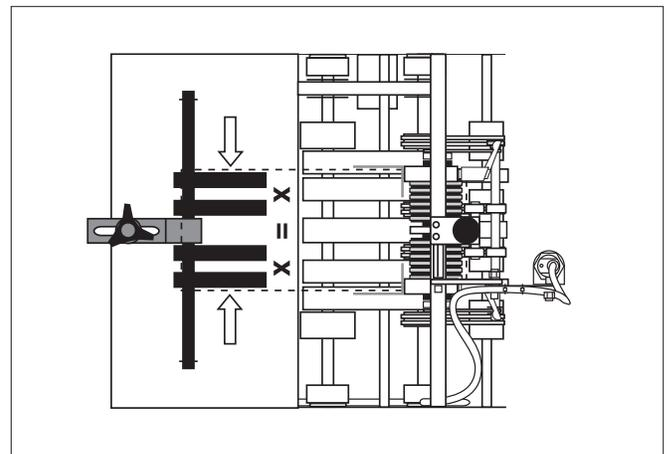

Figure 25. Evenly Adjusting Individual Wedges
6. Check that individual triangle wedges are evenly spaced to provide enough support to lift the material off the table top and feed belts, without any bowing or twisting (Figure 25). Refer back to page 20 for guidelines on adjusting individual wedges for thinner material.